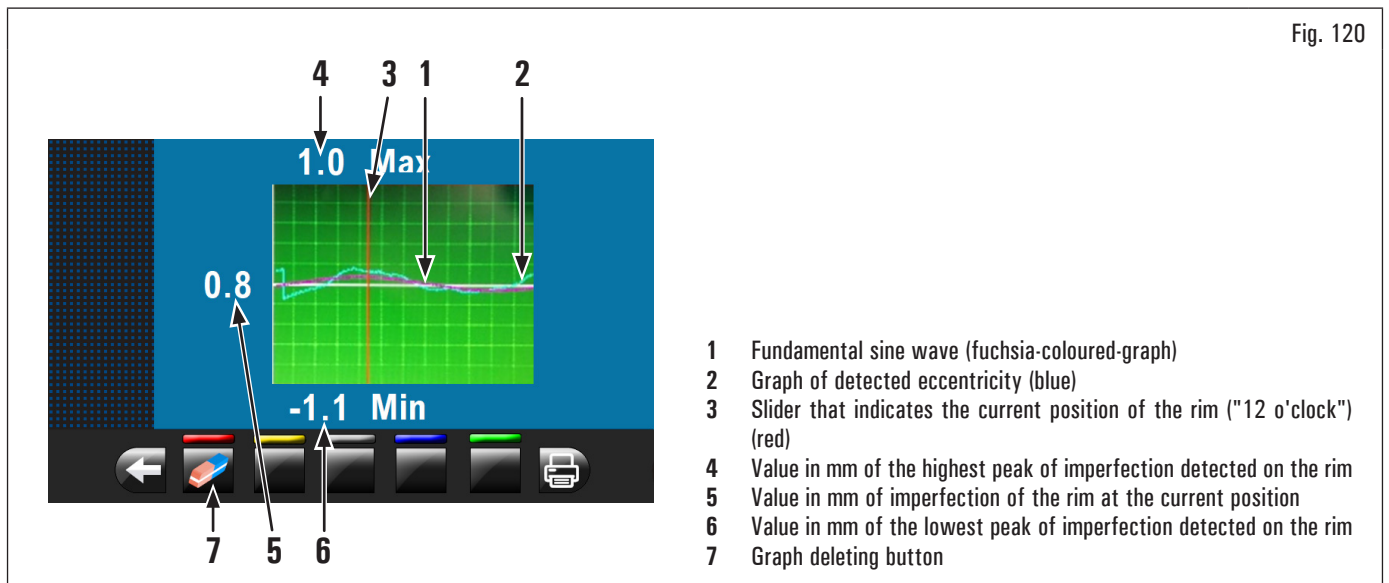

Fig. 120
The blue graph (Fig. 120 ref. 2) represents exactly the geometric shape of the rim. The more the circle is round and linear, the more the graph is flat, unlike the more the circle has deficiencies, the more the graph is large.
You can follow the eccentricity in the graph by manually turning the rim, the red-coloured-slider (Fig. 120 ref. 3), indicates the position of the rim in "12 o'clock" position.